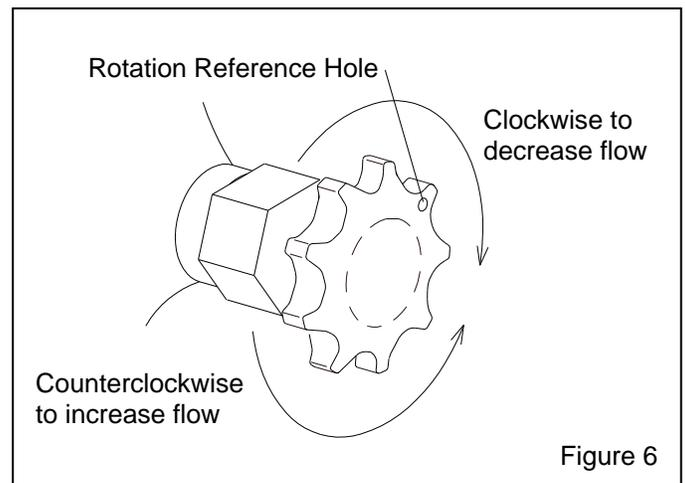

Figure 6
4.1 Abrasive Metering, Figure 6